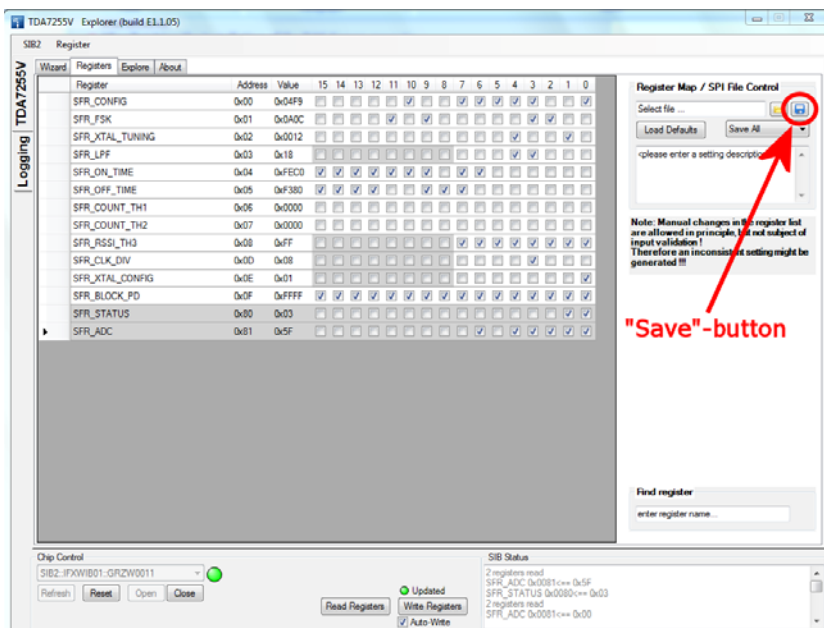
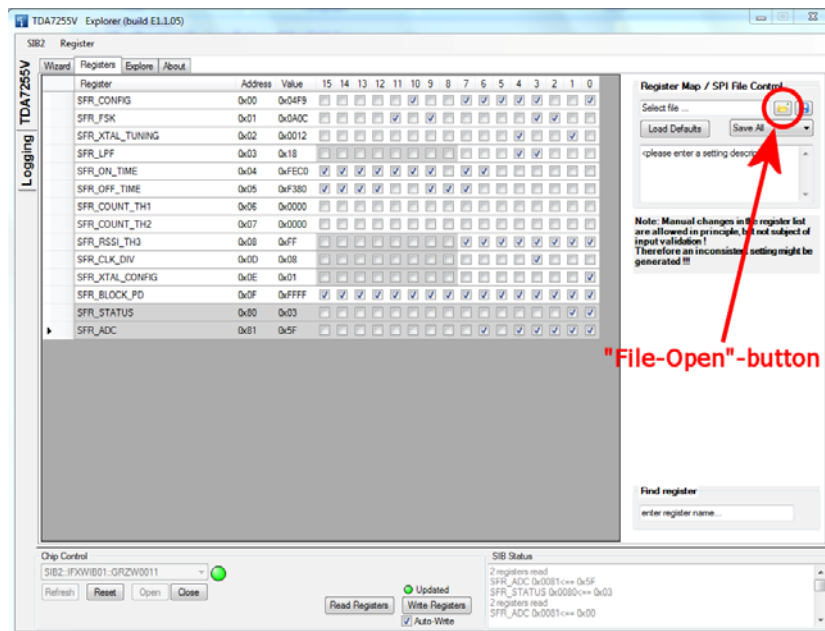

Figure 14 Save button
Figure 15 File-Open button
- The registers settings can be saved as config-file (\*.spi.def) by clicking at the “**Save**”-button in the **Register**-tab on the one hand (see Figure 14). Already available config-files can be loaded by clicking at the “**File-Open**”-button on the other hand (see Figure 15)